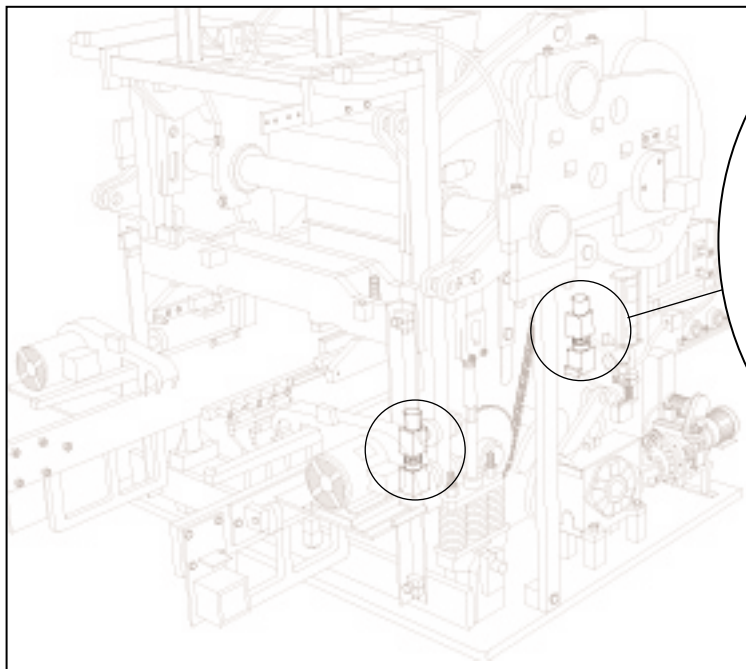

Figure 4.6 BOLTS AT ALL 4 CORNERS. (RIGHT SIDE SHOWN)
- b. Loosen bolts at all 4 corners that secure mold throat assembly (See figures 4.6 and 4.7). Remove top spacers.